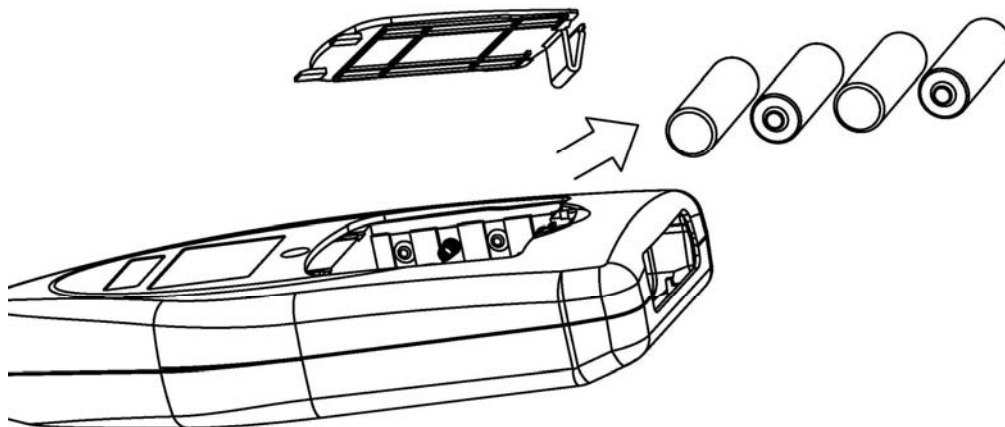

Fig. 55: Replacement of internal batteries
3. Removed the old batteries (see Fig. 55)